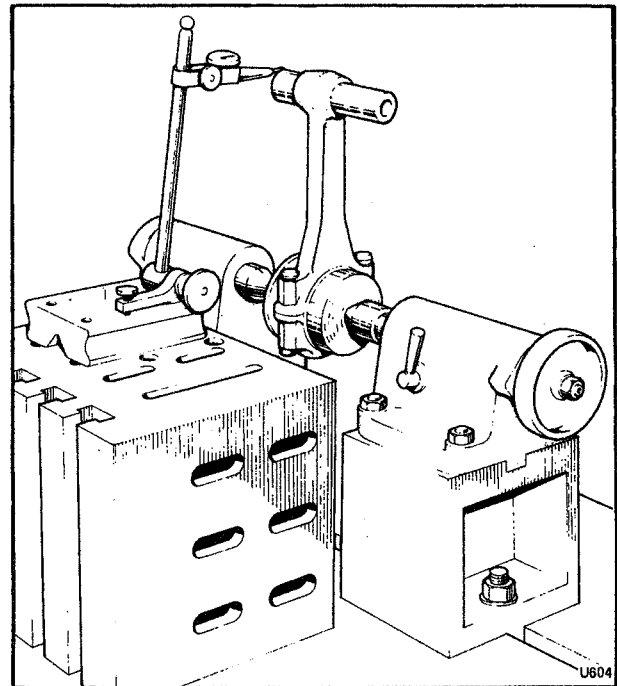

Fig. E22 Checking the connecting rod alignment
3. Mount the connecting rod on an inspection surface table as shown in Figure E22.